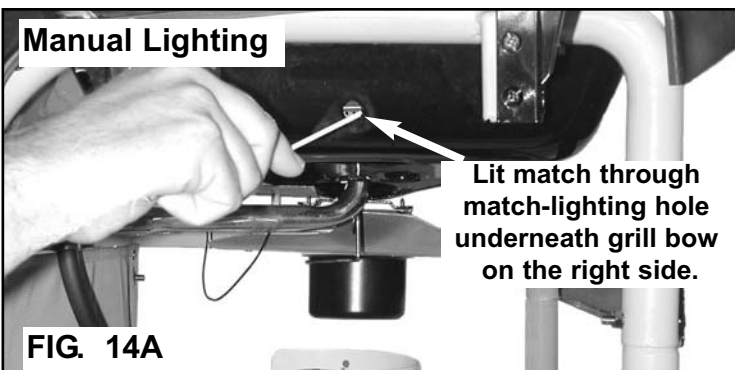
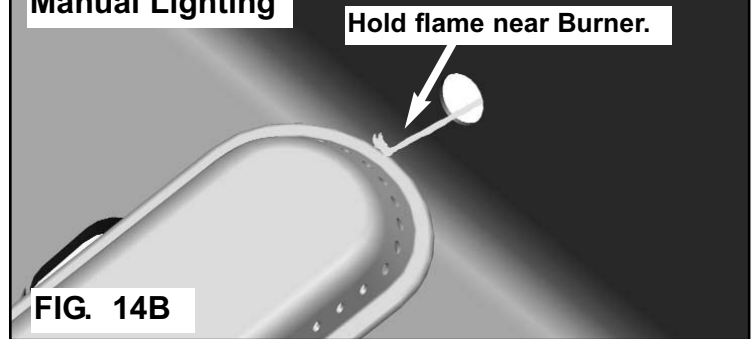

FIG. 14A
FIG. 14B
4. Insert a lit match through match-lighting hole underneath the grill bowl on the right side. (FIG. 14A) Hold the flame near the burner. (FIG. 14B)